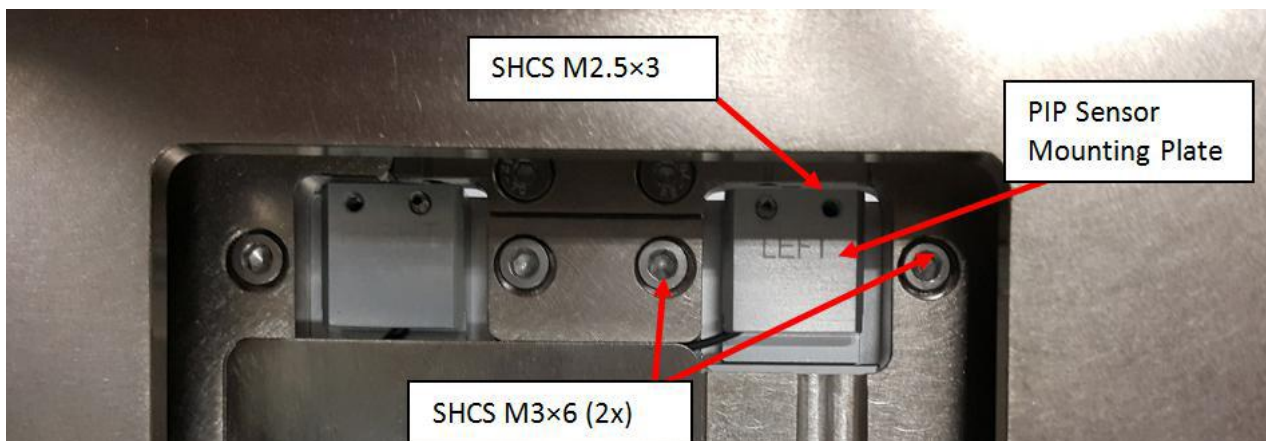
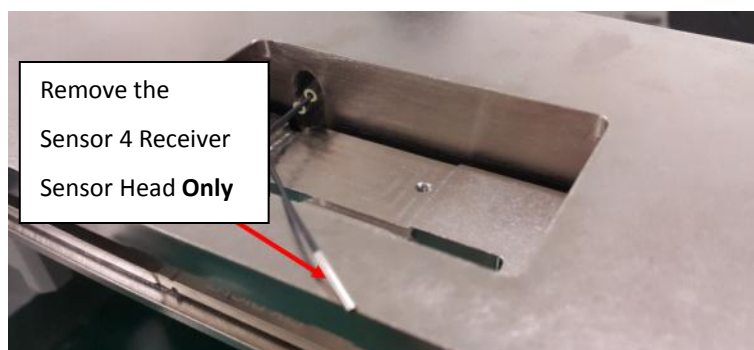

Figure 15 Sensor 4 Receiver
Figure 16 Sensor 4 Receiver
2. Remove SHCS M3×6 (2x) from Sensor 4 Receiver as shown in Figure 15. Loosen SHCS M2.5×3 as shown in Figure 15. Remove Optical Sensor 4 Receiver Head from pip sensor mounting plate as shown in Figure 16